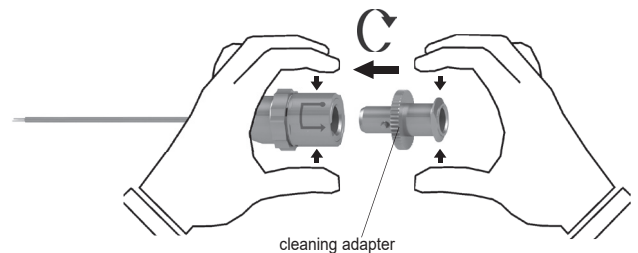

Fig. 5
- Assemble the respective cleaning adapter (see tab. 1) as described (fig. 5).